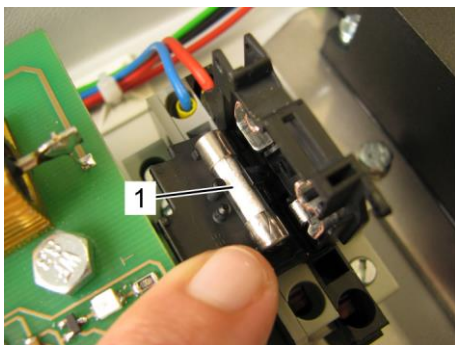

Fig.109: Fuse
6. Remove the fuse (Fig.109/1) of the power switch handle and replace it by a new one.